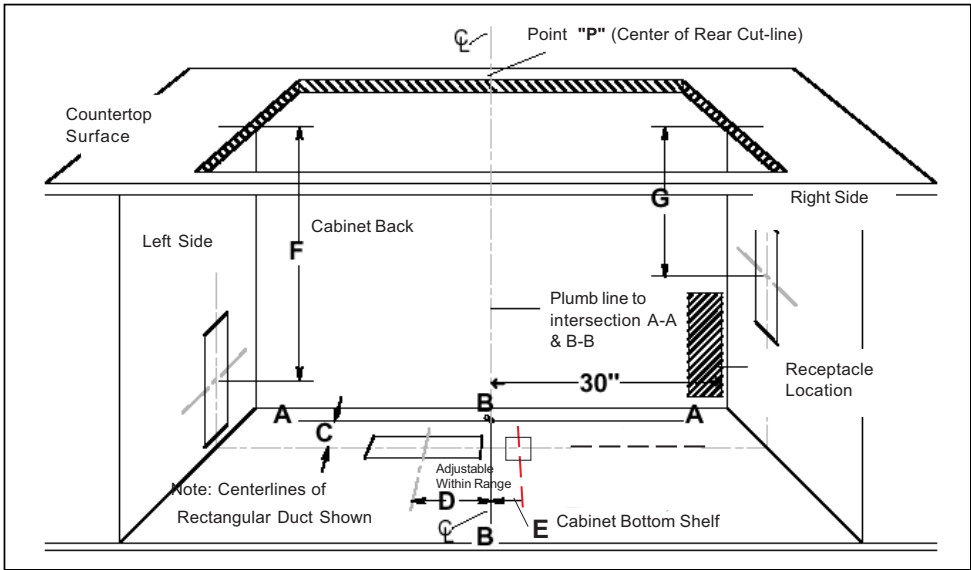

Fig. 9
- A. Refer to Figure 9. Drop a plumb-line from Point "P" at the rear center of the countertop cutout. Mark this point on the bottom of the cabinet below. Construct two reference lines through this point: one should be parallel to the cabinet front and directly below the rear countertop cutout (Line A-A), and the other (Line B-B) should be at right angles to A-A.
The receptacle should be located under the countertop so that the 30 inch long power cord from the vent will reach it. See Figure 9. The cord should be routed beneath the appliance and away from heat generated by the cooktop. Access should not be obstructed by blower, cabinet work, ductwork or electrical/gas utilities for the cooktop. All power for the vent system (including the remote blower, if used) is supplied via the cord to the intake unit. The outlet can usually be extended from another kitchen outlet or have its own circuit from the main service panel.